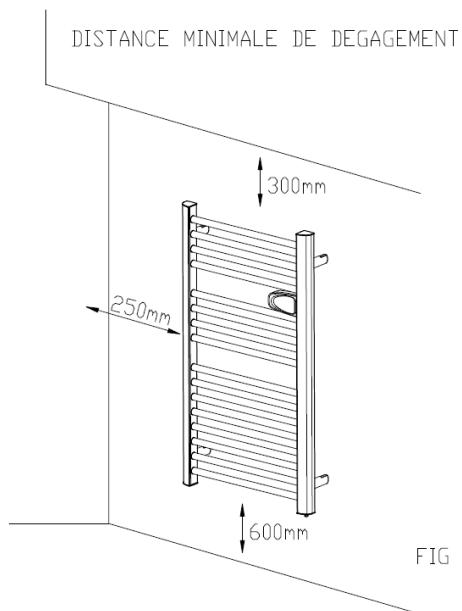

FIG 1
1. Use the supplied wall brackets to mount the unit. Observe the minimum distances of obstacles (see Fig1).